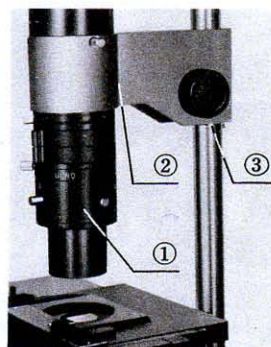

Fig. 4
b) **To illuminate for ultra long working distance (Fig. 4):**